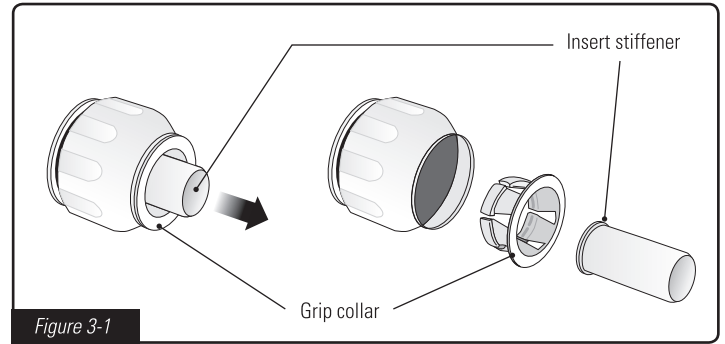

Figure 3-1
- A. Using a pair of needle-nose pliers, remove the insert stiffener from the body of the fitting. **See figure 3-1.** Grip only the stiffener by inserting one of the pliers jaw tips into the inside diameter of the stiffener.